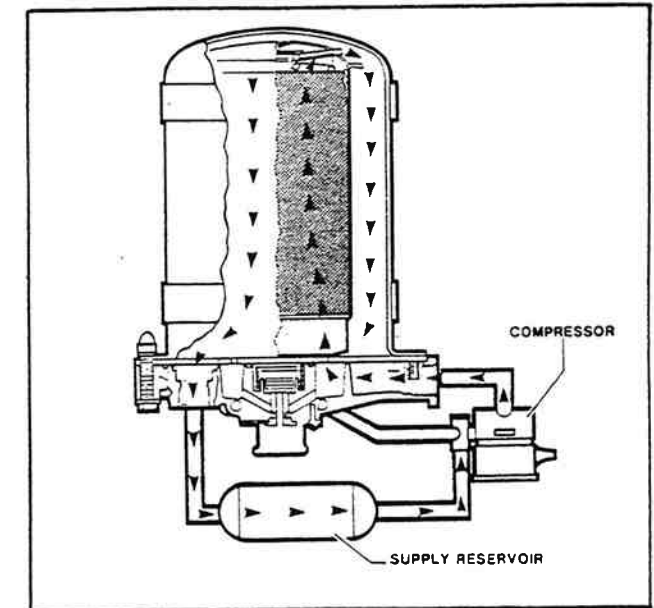

Figure 4-57. Charge Cycle Diagram.
**Charge Cycle** — Refer to figure 4-57. When the air compressor is loaded (compressing air) compressed air, along with oil, oil vapor, water and water vapor flows through the compressor discharge line to the supply port in the air dryer end cover. The flow velocity, or the speed at which the air and its contaminants travel down the discharge line, is reduced substantially as it enters the air dryer end cover baffle system behind the supply port. As air travels through the baffle system, its direction of flow changes by 180° several times, causing contaminants to condense and drop to the bottom (sump) of the air dryer end cover.